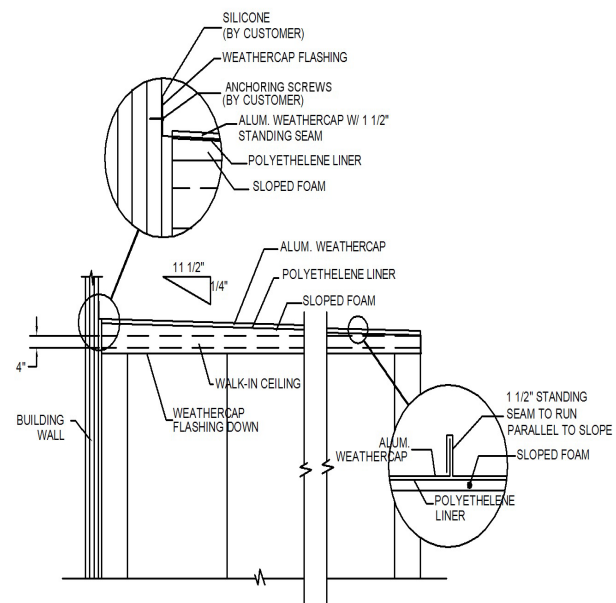

FIGURE 17 - SLOPED ALUMINUM WEATHERCAP
2. Clean and seal the ceiling panels and attach the sloped foam to the ceiling panels (Refer to Figure 17; page 10).